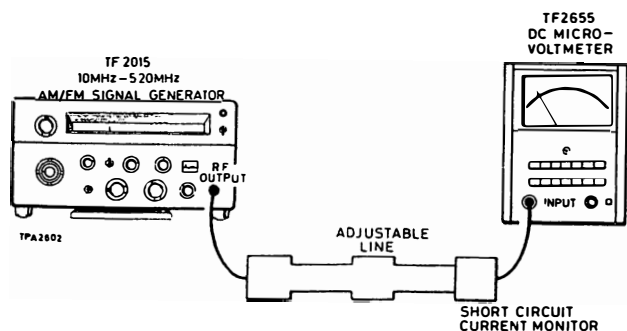

Fig. 4.6 Test gear arrangement to check v.s.w.r.
1. Connect the test equipment as in Fig. 4.6.